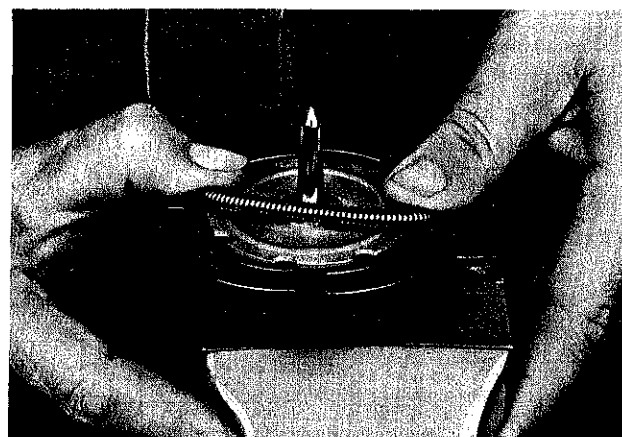

Figure VI-5. Continue to seat the spring by pressing it down into the groove from both sides of the rotor plate.
6. Continue to press the remainder of the spring outward and over the edge of the notched plate and into the other shoe grooves. (Figure VI-5)